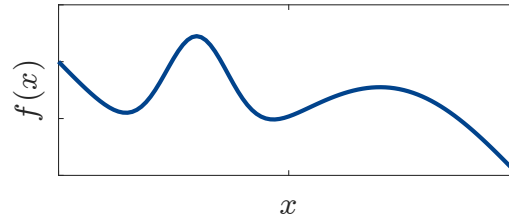

Fig. 2: Imaginary nonlinear sensor characteristics
- f) What is problematic with the compensation via inversion of the nonlinear characteristics shown in Fig. 2? What property is required to allow the inversion of a function. What has to be done to compensate the nonlinear characteristics for the whole function  $f(x)$ ?